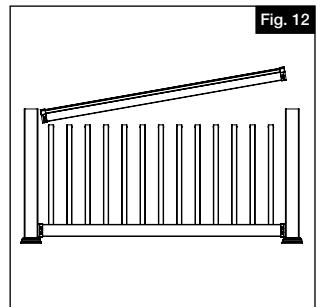

Fig. 12
- Begin at one side of rail and align first baluster with first routed hole on bottom side of top rail and snap top rail into position (Fig. 12).
- Make sure rails are fully seated with balusters and level and centered to post sleeve. Then, using $\frac{1}{8}$ " drill bit, pre-drill first top bracket screw hole (Fig. 12). Drill through bracket hole, vinyl post sleeve and vinyl insert and loosely install first #10 x $1\frac{1}{2}$ " screw.